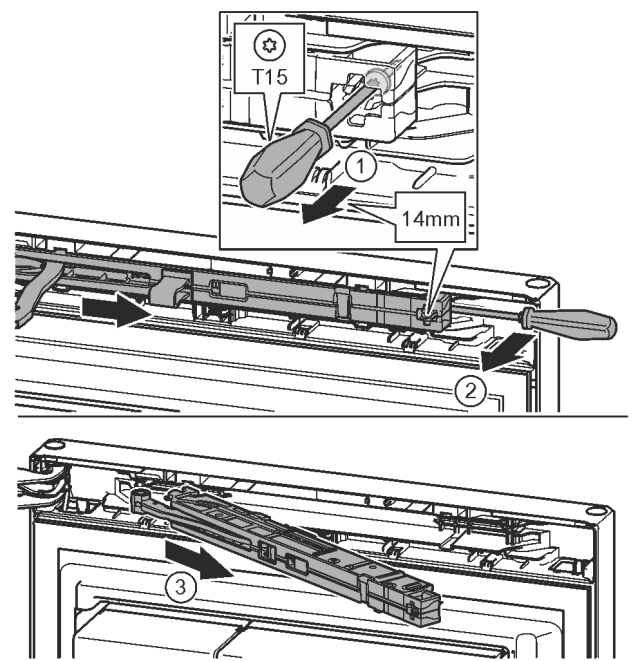

Fig. 15
- ▶ Undo the soft stop mechanism screw with a T15 screwdriver approx. 14 mm. Fig. 15 (1)
- ▶ Insert a screwdriver behind the soft stop mechanism on the handle side and rotate forwards. Fig. 15 (2)
- ▶ Remove the soft stop mechanism. Fig. 15 (3)